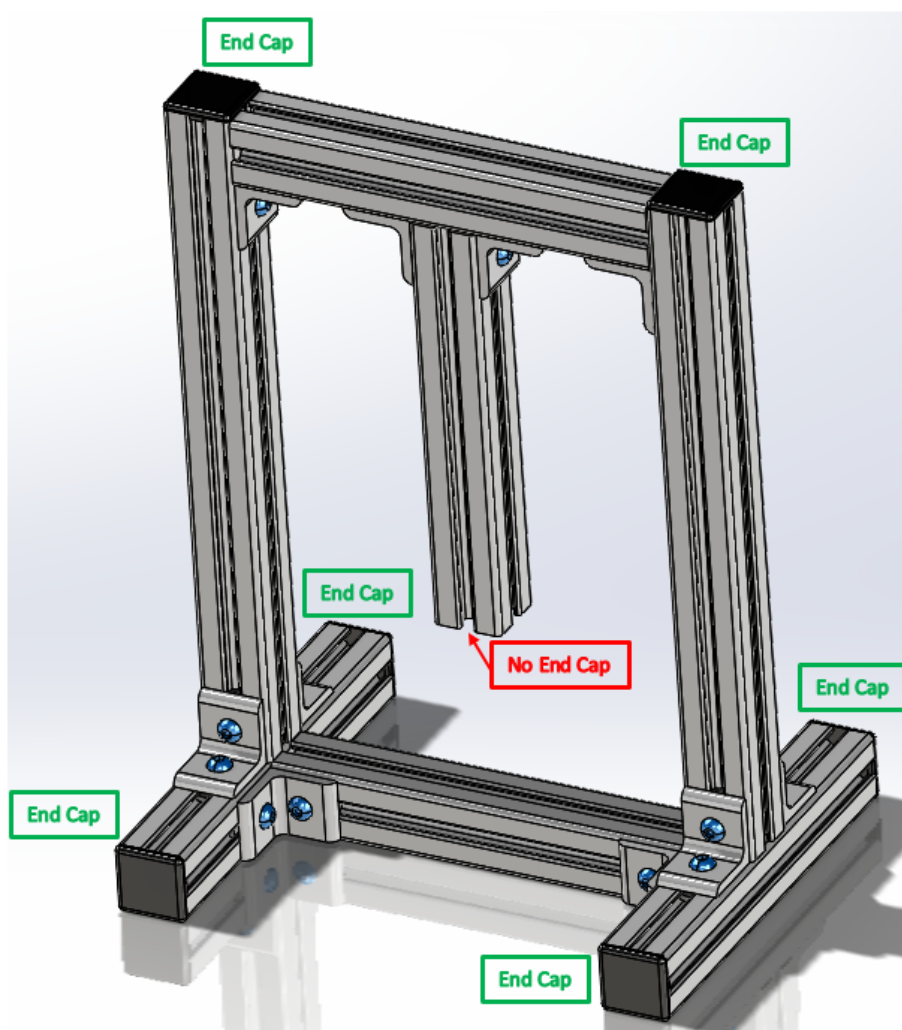

Figure 7. End Cap placement on the assembled frame
1. Tap in end caps on all of the exposed ends of the tubes except for the base of the hanging tube with a rubber mallet (Figure 7).